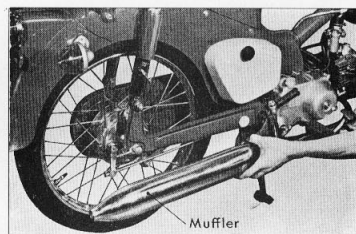
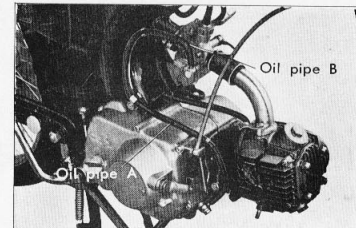

Figure 3-2. Removing muffler
Figure 3-3. Removing oil pipes
- (1) Loosen the 6mm cap nuts from the air cleaner cover and remove the air cleaner. (C50, C50M, C65, C65M)
- (2) Remove front cover
- (3) Remove the muffler (Fig. 3-2)
- (4) Remove step bar
- (5) Remove tool box
- (6) Remove oil pipes A and B. (S50, S65) (Fig. 3-3)